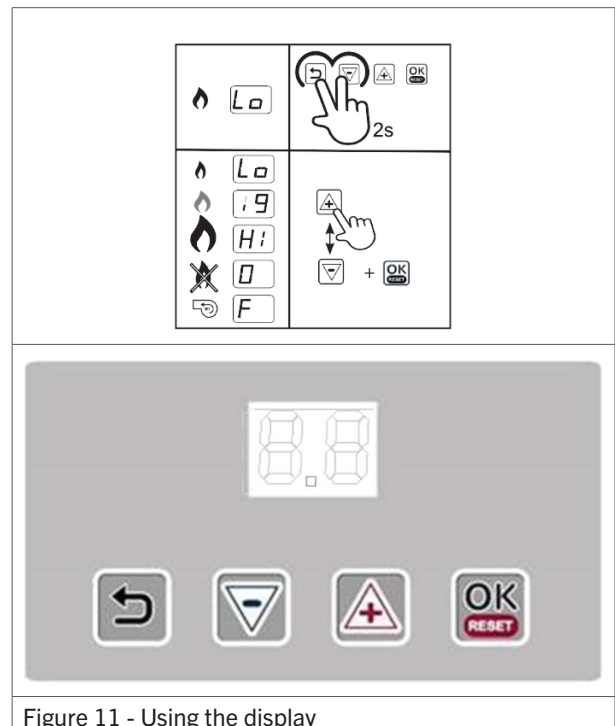

Figure 11 - Using the display
1. Press and hold the **Return** and (–) button for a few seconds (figure 11). The display will alternate between Lo and St. This means the heater will start up in Low fire.
2. Press the (+) and (–) buttons to toggle between Low and High fire (figure 11).